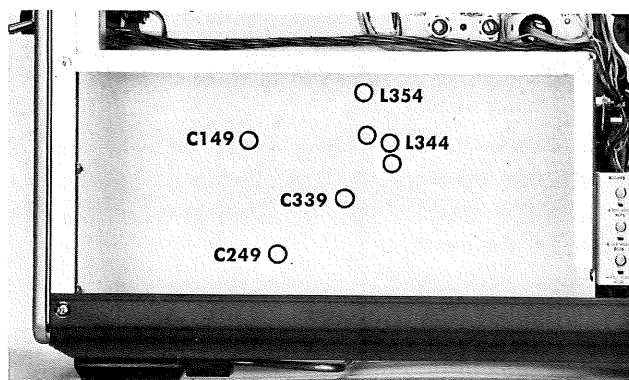

Fig. 5-2. Indicator unit access holes used to calibrate the Type 9A2.
- g. Adjust C339 (see Fig. 5-2) for the flattest top on the square wave.